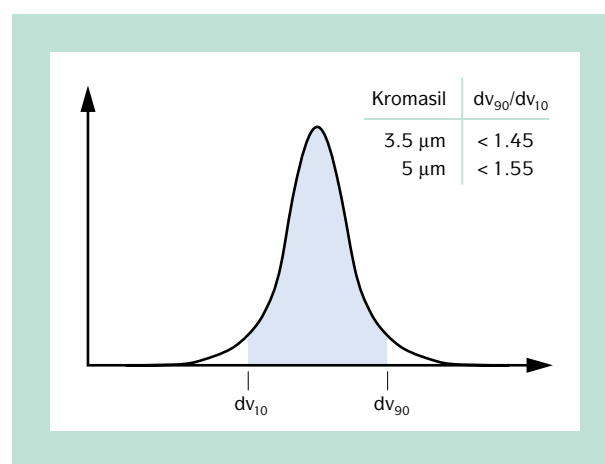

Figure 2 | Particle size distribution showing the dv_{90}/dv_{10} ratio.
In order to define and secure a narrow particle size distribution we use the dv_{90}/dv_{10} ratio in our quality control (QC) procedure, figure 2.